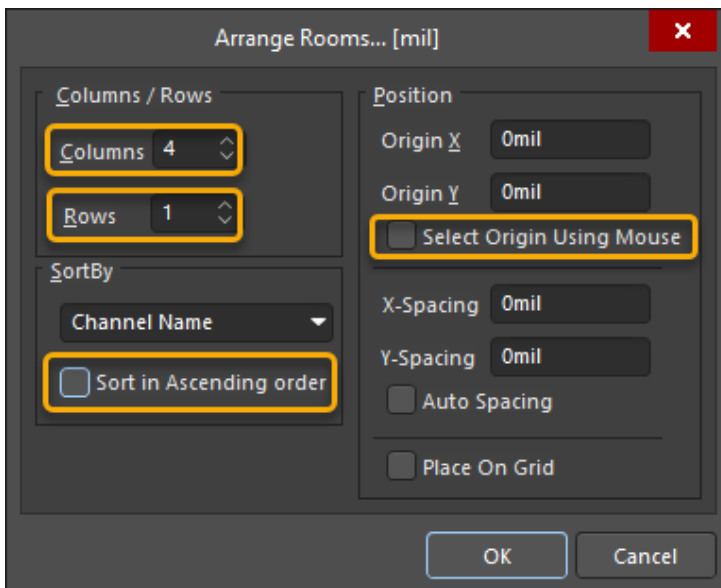

Figure 13 Automatic Room Arrangement
- a) In the *Arrange Rooms* dialog, set the *Columns* value to 4, and *Rows* to 1 as shown in Figure 13.